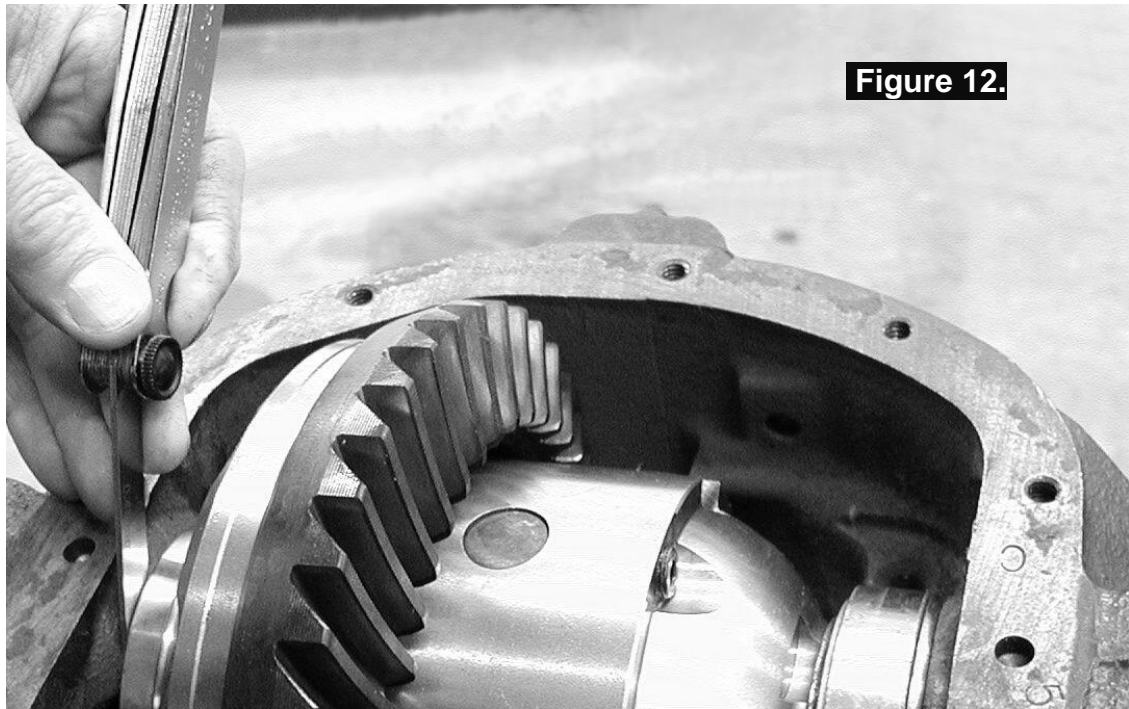

Figure 12.
- Push (or lightly pry) the *Air Locker* hard across to the right-hand side, and measure the gap (also called the 'end float') between the bearing cup and the housing with a feeler gauge (See Fig 12.).